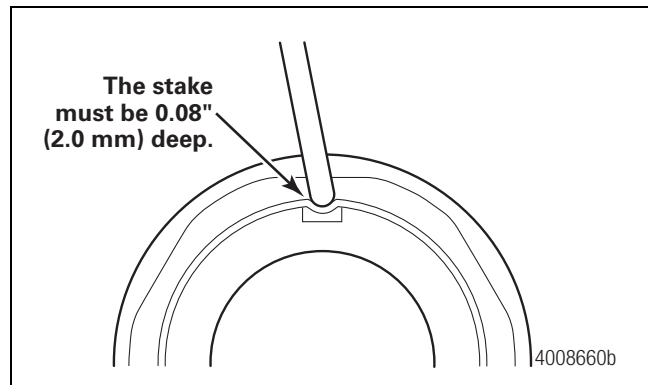

Figure 11.9
- G. Stake the nut by deforming the flange into the channel on the spindle at two locations 180 degrees apart. The stake must be 0.08-inch (2.0 mm) deep. Figure 11.9.